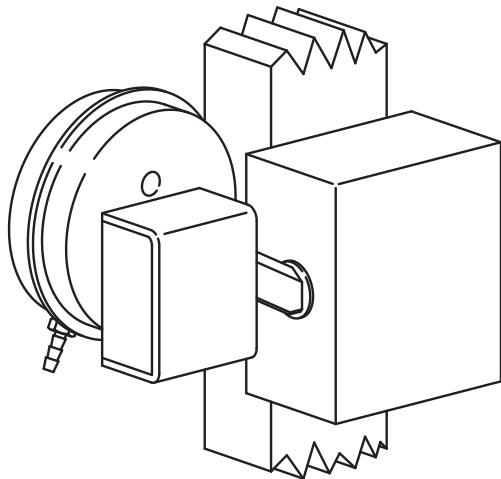

Figure 26.
2. Mount the junction box to a wall per Figure 26. A studded wall mount is preferable.